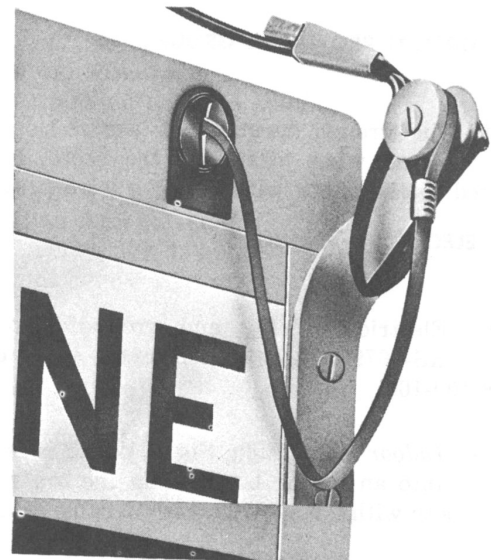

Fig. 5 - Corner Bracket as First Attachment (Right Side)
B. Corner Bracket (Fig. 5)
- (1) Drill 11/32-inch hole two inches below top of column and 1 inch from outside corner. Use corner bracket to determine exact location for second hole.
- (2) Attach corner bracket with 5/16 by 2-inch stove bolt and 3/8-inch corrosion resistant washers.